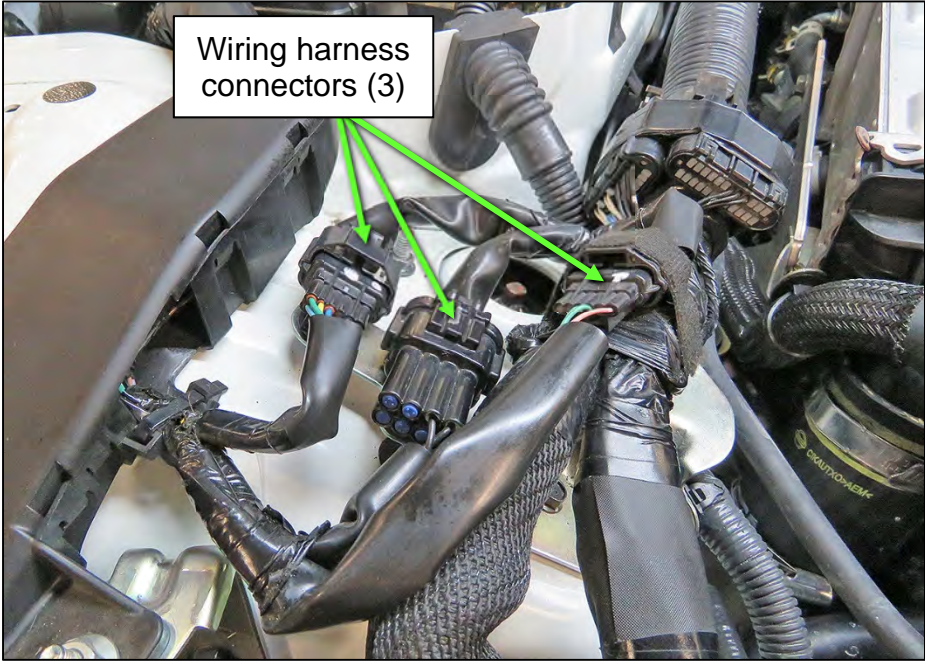

Figure 7
16. Disconnect the three (3) wiring harness connectors shown in Figure 7.